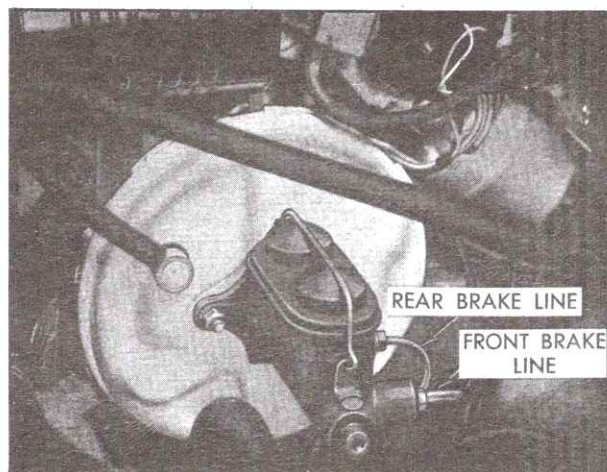

Fig. 5-11 Power Brake Unit Installed (Bendix)
1. Disconnect hydraulic brake lines from master cylinder, Fig. 5-11. Cap line fittings to prevent dirt from entering brake lines.